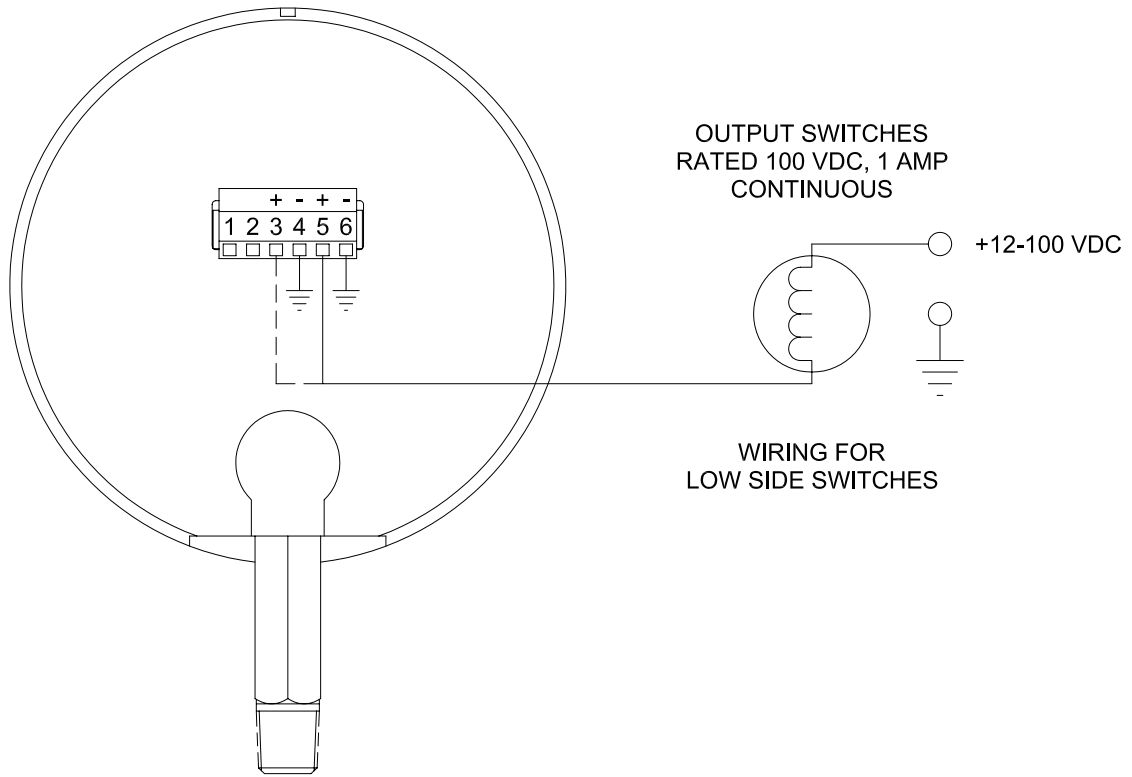

Figure 6
- 3.2 OUTPUT SWITCH WIRING - There are two user-programmable output switches that can be set anywhere within the range of the gauge. A fault condition will cause one or both of the output switches to turn ON/OFF to their common. These switches are solid state, open drain FET's and are isolated from the loop supply. The common is also isolated from the loop supply thus allowing for low-side or high-side switching. The switches are rated at 100 Vdc., 1.0 Amp continuous. Please refer to the wiring diagram figures 6 and 7.